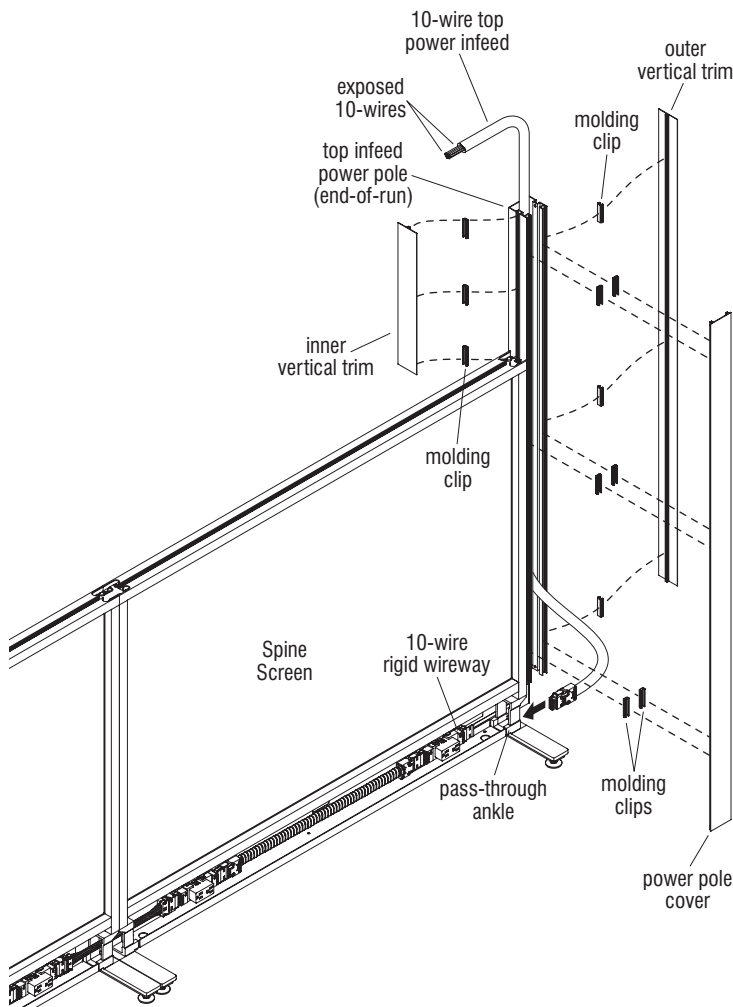

Figure 9
6. Determine the length of the inner vertical trim by measuring the distance from the ceiling to the top of the Spine Screen frame. Next, determine the length of the outer vertical trim by measuring from the ceiling, down to the floor at the outer trim location. Then, squarely cut the inner and outer vertical trim section to the measured lengths above (Figure 9).
7. On the rib side of the inner and outer vertical trim, space molding clips evenly apart and press them onto the ribs of the vertical trim as illustrated (Figure 9 & Detail O).
8. Position the inner and outer vertical trim with molding clips up against the appropriate side of the top infeed power pole channel. Using a firm hand, press the trim at the molding clip locations to snap into the power pole channel (Figure 9 & Detail O).
9. Place the 10-wire top infeed conduit inside the power pole and route the plug end of the infeed down through the pass-through ankle and plug it into the end of the 10-wire rigid wireway (Figure 9).
10. Push the 10-wire end of the power infeed up through the top of the power pole and into the above-ceiling area for later connection to the source power (by a certified electrician) (Figure 9).
11. Determine the length of the top infeed power pole cover by measuring the distance from the ceiling to the floor at the side of the infeed power pole. Cut the cover square to the marked length (Figure 9).
12. On the rib side of the power pole cover, space molding clips evenly apart and press them onto both ribs on the cover as illustrated (Figure 9 & Detail P).
13. Position the power pole cover with molding clips up against the opening side of the end-of-run top infeed power pole. Using a firm hand, press the cover at the molding clip locations to snap into power pole cover channel (Figure 9 & Detail P).